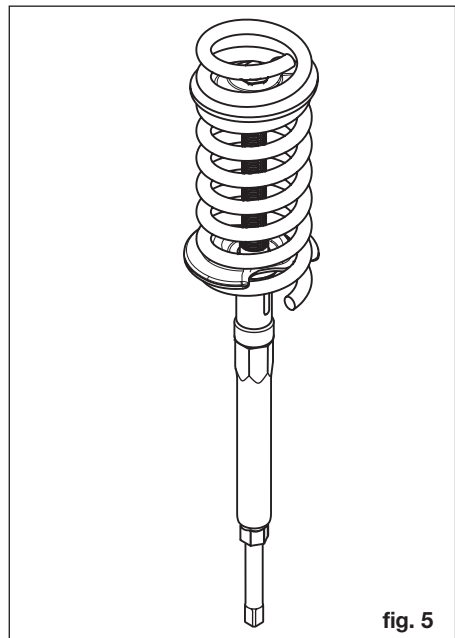

fig. 5
- Operate drive with the tubular box-end wrench ⑥ and the reversible ratchet ⑧ (figure 5).
- When removing the spring from the fixing device/rubber protectors, retain with tubular box-end wrench ⑦ in order to avoid turning/twisting of the tensioning jaw.